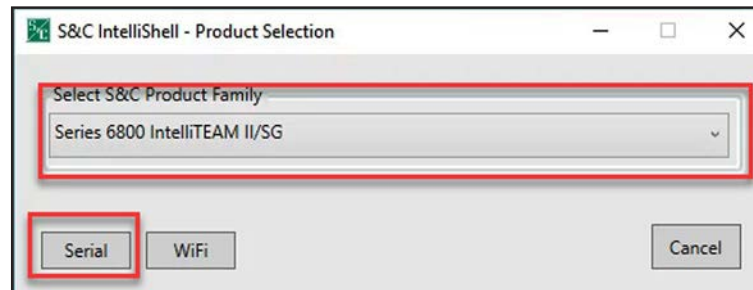

Figure 48. The Product Selection and Serial connection option.
STEP 2. Select the product on which to perform the factory reset and click on the **Serial** button. See Figure 48.